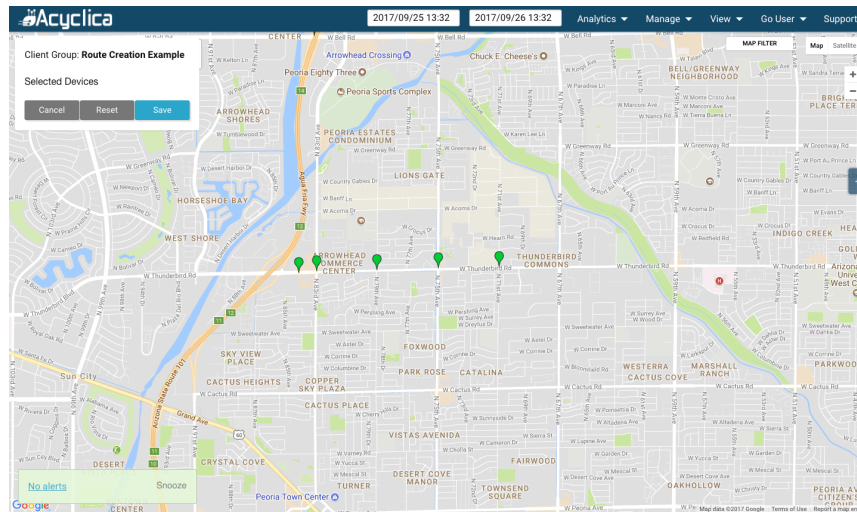

Figure 3.4 - All available sensors to start the route
2. Select the sensors in the order that the route will be travelled. As sensors are selected, adjacent sensors will become available for your route (Figures 3.4, 3.5, and 3.6)